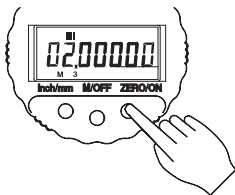

Figure 12 - Changing the Digital Character
- 5) Change the selected character by pressing and releasing **ZERO/ON** (Figure 12).